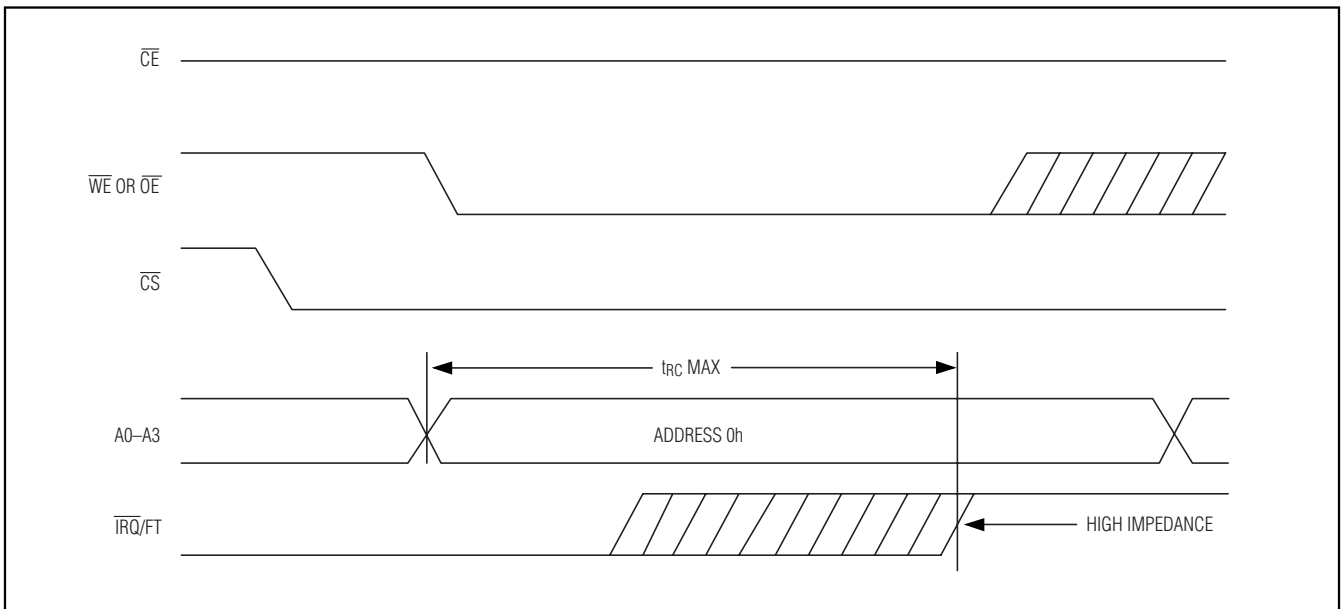
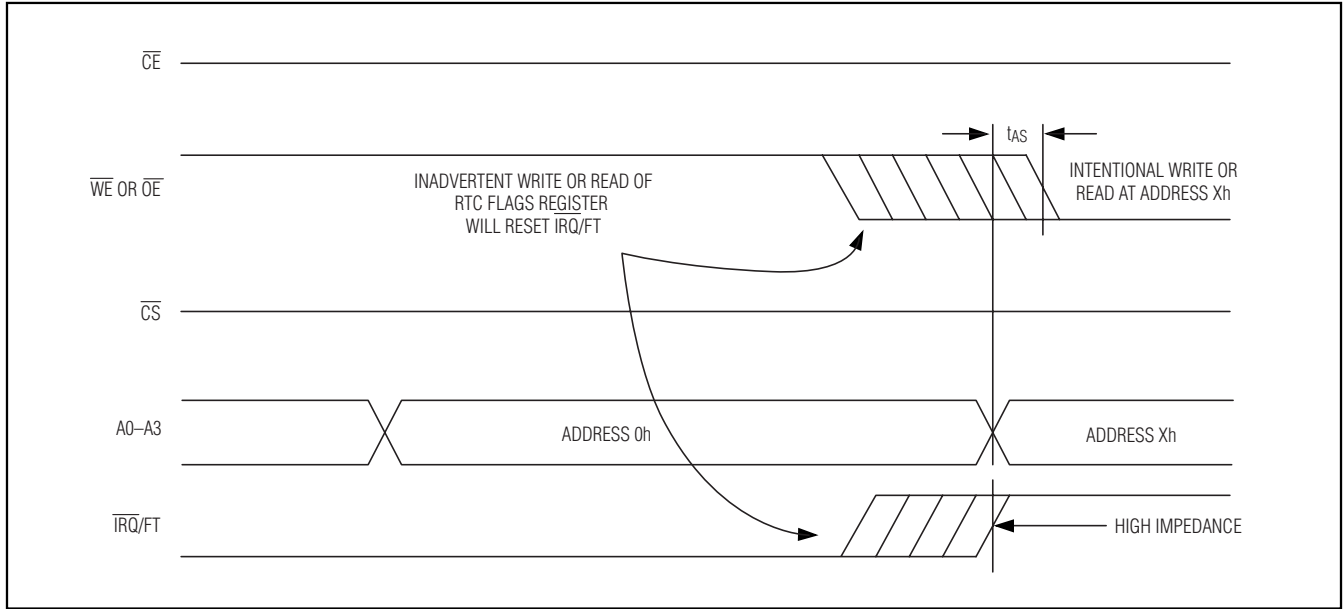

Figure 1. Clearing Active IRQ Waveforms
Figure 2. Prevent Accidental Clearing of IRQ Waveforms
When the RTC register values match alarm register settings, the alarm flag (AF) is set to a 1. If AE is also a 1, the alarm condition activates the  $\overline{\text{IRQ}}/\text{FT}$  output. When  $\overline{\text{CS}}$  is active, the  $\overline{\text{IRQ}}/\text{FT}$  signal can be cleared by holding the FLAGS register address stable for  $t_{\text{RC}}$  and forcing either  $\overline{\text{OE}}$  or  $\overline{\text{WE}}$  active (see Figure 1). The flag does not change state until the end of the read/write cycle and after the  $\overline{\text{IRQ}}/\text{FT}$  signal has deasserted. To avoid inadvertently clearing the  $\overline{\text{IRQ}}/\text{FT}$  signal while preparing for subsequent write/read cycles at other register addresses, assure that  $t_{\text{AW}}$  is met for that subsequent address (see Figure 2).